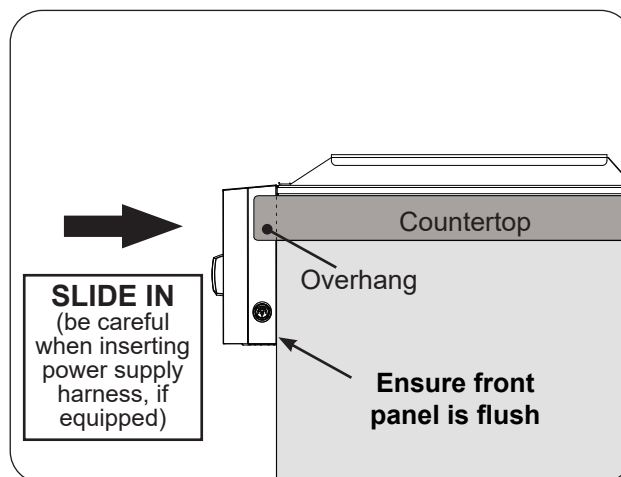

Fig. 28-2 Slide in unit (ensure flush)
- Ensure the unit fully slides in so that the face panel sits flush against the enclosure front wall. See Fig. 28-2 and see the COUNTERTOP OVERHANG section in ENCLOSURE REQUIREMENTS for details.